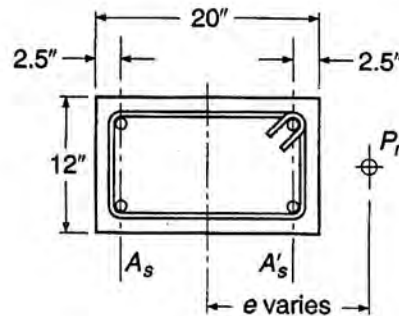

Fig: 3
3. A 12×20 inch column is reinforced with four #9 bars as shown in the **Fig: 3**.